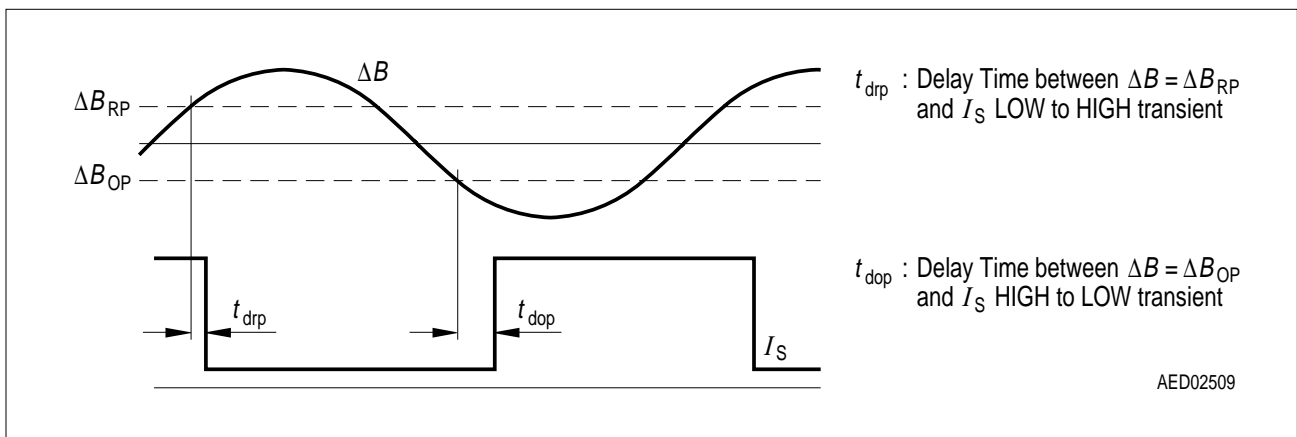

Figure 6 Definition of Delay Times (switching points related to initial measurement @ $\Delta B = 2 \text{ mT}$; $f = 200 \text{ Hz}$)
4) For definition see **Figure 6**.